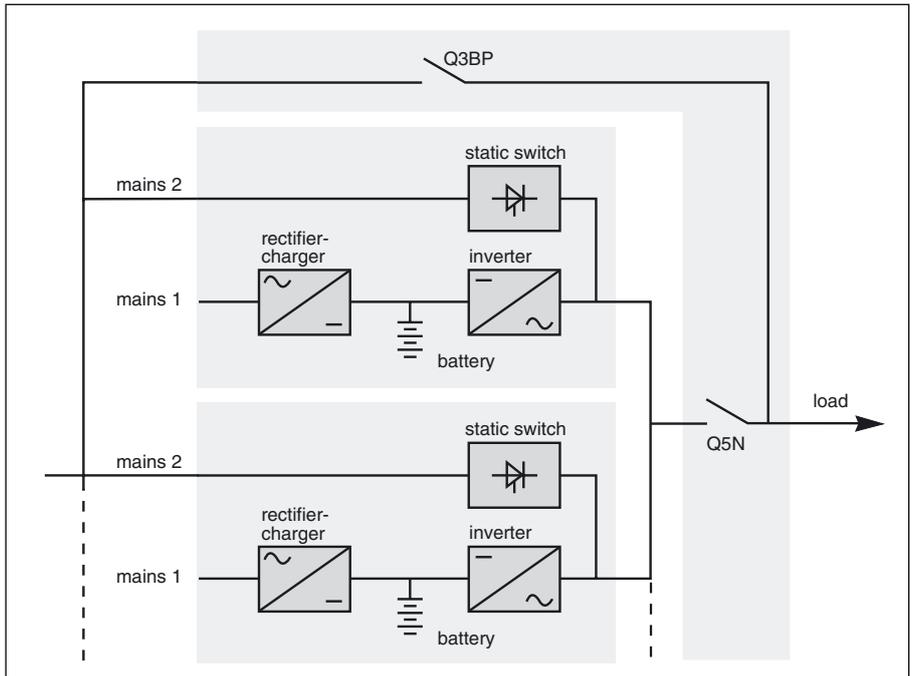

Fig. 3
- ▶ Modular UPSs with external maintenance bypass: (figure 3)